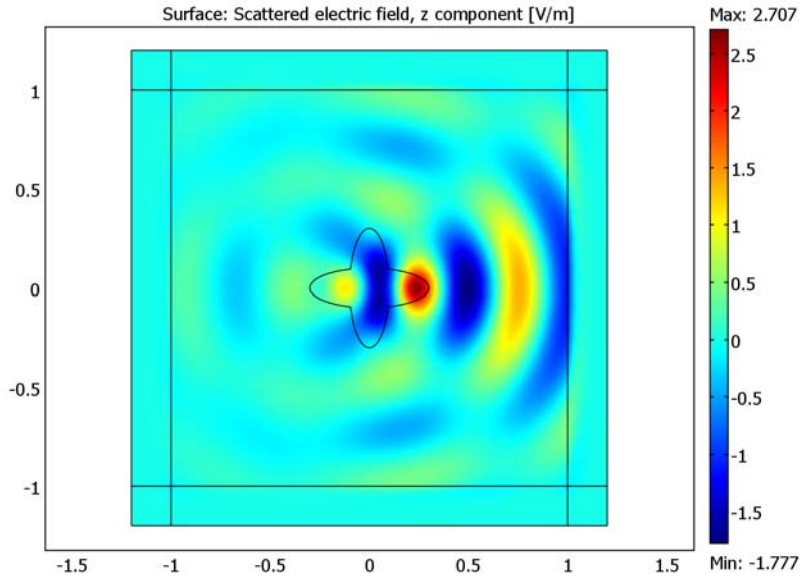

Figure 2-1: The figure shows the scattered field from the dielectric object.
Figure 2-1 shows the scattered field without the plane wave.
The PMLs absorb the scattered energy with a minimum of reflections. If there was no dielectric object inside the domain, the low-reflecting and PMC boundary conditions would be enough. In that case the waves would propagate only in the  $x$  direction and the low-reflecting boundary condition would absorb the plane wave perfectly. With a scatterer present, the PMLs are necessary to absorb the scattered wave that you can see in Figure 2-1.
Follow these steps to visualize the scattered field without the incident plane wave as in Figure 2-1. To plot the solution in the physical domains only, you suppress the PML subdomains.
- 5 Click **OK**. This creates the plot in Figure 2-1 on page 9.